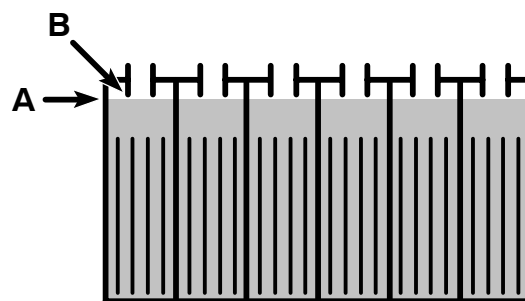

FIG. 30
3. Check the electrolyte level (A) in each battery cell **after charging batteries**. The level should be approximately 1 cm from the bottom of the fill-port (B). Add distilled water if needed (Figure 30). **DO NOT OVERFILL.**